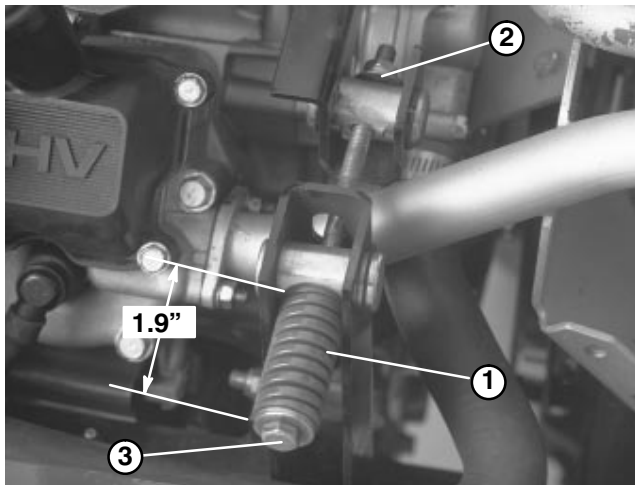
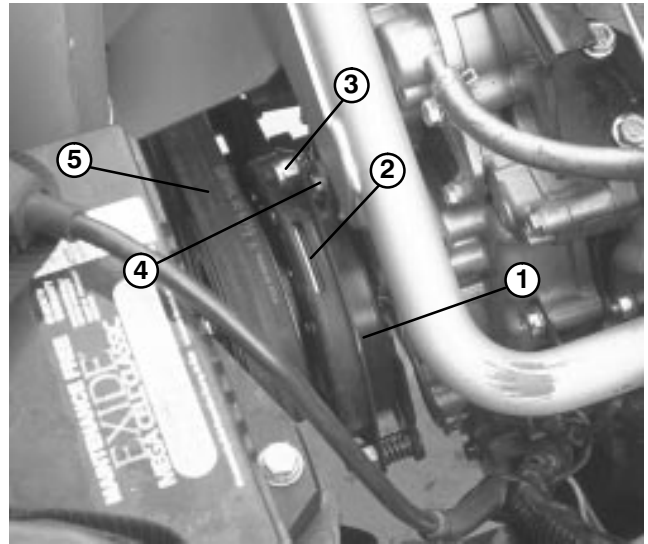

Figure 32
Figure 33
2. Loosen the tensioning rod jam nut (Fig. 32).
3. Loosen the belt tensioning spring (Fig. 32) all the way.
4. Rotate PTO pulley toward the engine and remove the belt (Fig. 33).
5. Install the new PTO belt and re-tension the pulley spring to 1.9" (Fig. 32).
6. Tighten the jam nut (Fig. 32) and close the hood.
2. Remove bolt and nut securing nylon block and remove nylon block (Fig. 33).
4. Adjust the air gap so that a .015 inch feeler gauge slides in between the clutch lining and friction plate with light pressure (Fig. 33). The gap can be decreased by turning the adjusting nut clockwise (Fig. 32).